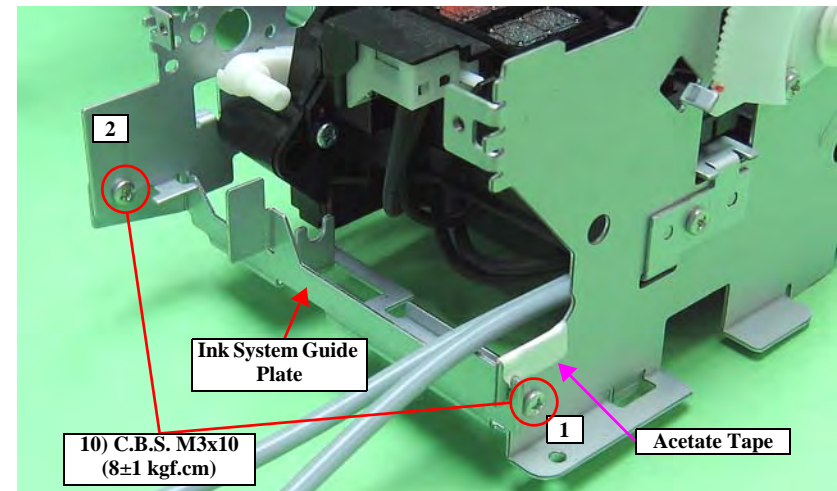
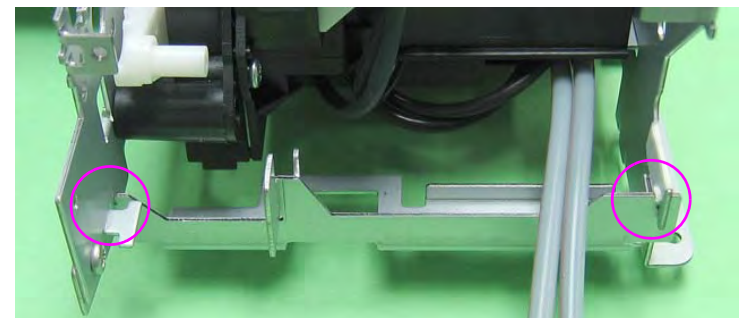

Figure 4-120. Removing the Ink System Guide Plate
Figure 4-121. Reinstalling the Ink System Guide Plate
- Referring to Figure 4-120 and Figure 4-121, attach the acetate tape.
- Tighten the screws in the order shown in Figure 4-120